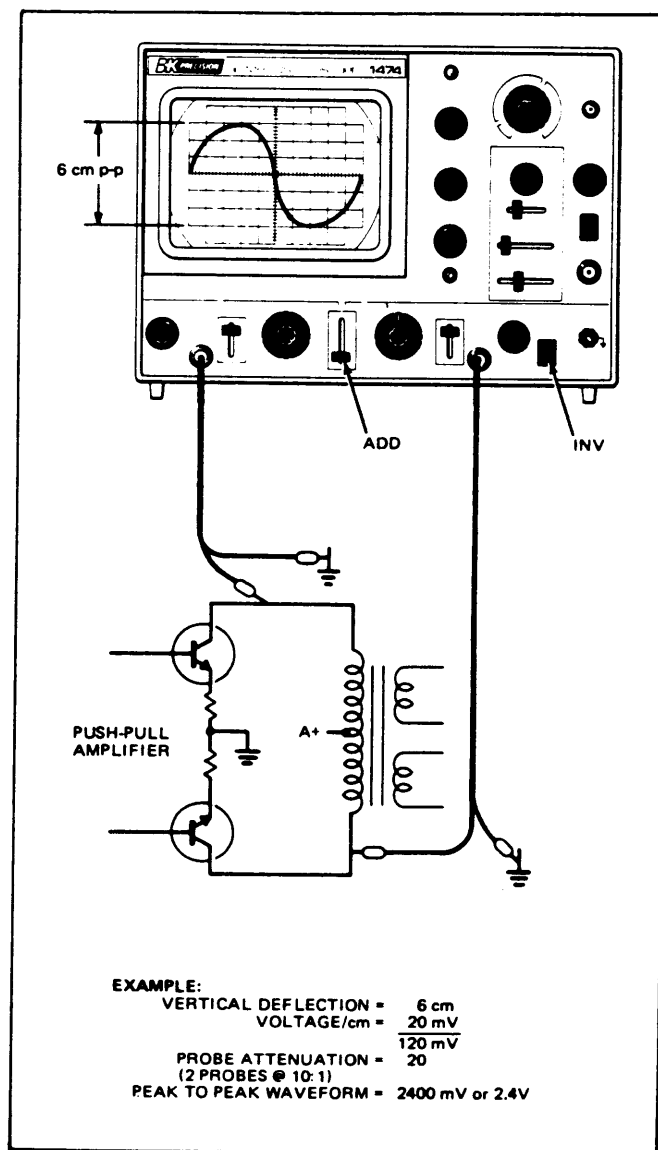

Fig. 5. Typical differential voltage measurement.
## DIFFERENTIAL VOLTAGE MEASUREMENT (See Fig. 5)
6. Calculate the time duration as follows: Multiply the horizontal deflection (in cm) by the SWEEP TIME/CM switch (5) setting (see example in Fig. 5). Remember, when the 5X magnification is used, the result must be divided by 5 to obtain the actual time duration.
- a. Set the SOURCE switch (14) to EXT.
- b. Connect a cable from the EXT TRIG jack (13) to the source of sync signal.
- c. Set the SLOPE switch (10) to the (+) or (-) position for the proper polarity for the sync signal.
- d. Readjust the TRIGGERING LEVEL control (9) if necessary for a stable waveform.